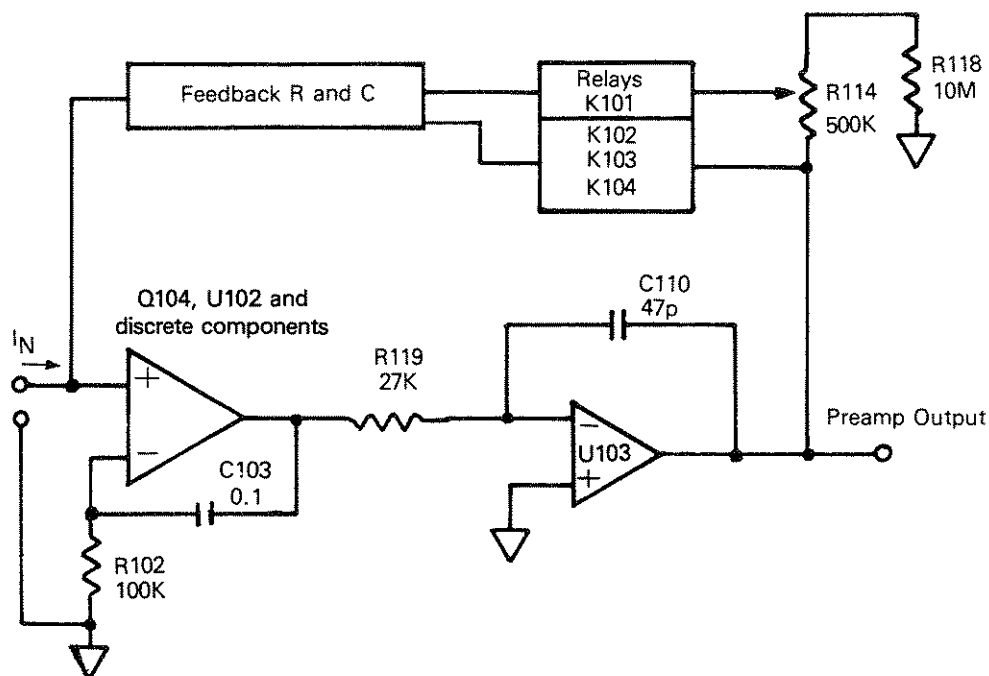

Figure 5-5. Model 614 Preamplifier Configured in Current or Coulombs
When either the Current (I) or Charge (nC) function is selected, the input preamplifier configures itself as a current to voltage amplifier. Refer to Figure 5-5.